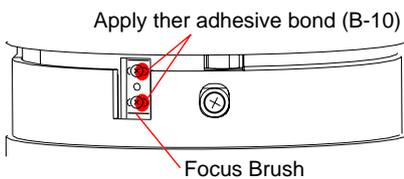

Fig. 4-7-8
- 6) After the pattern check is completed, apply the adhesive bond (B-10) as shown in Fig. 4-7-8.